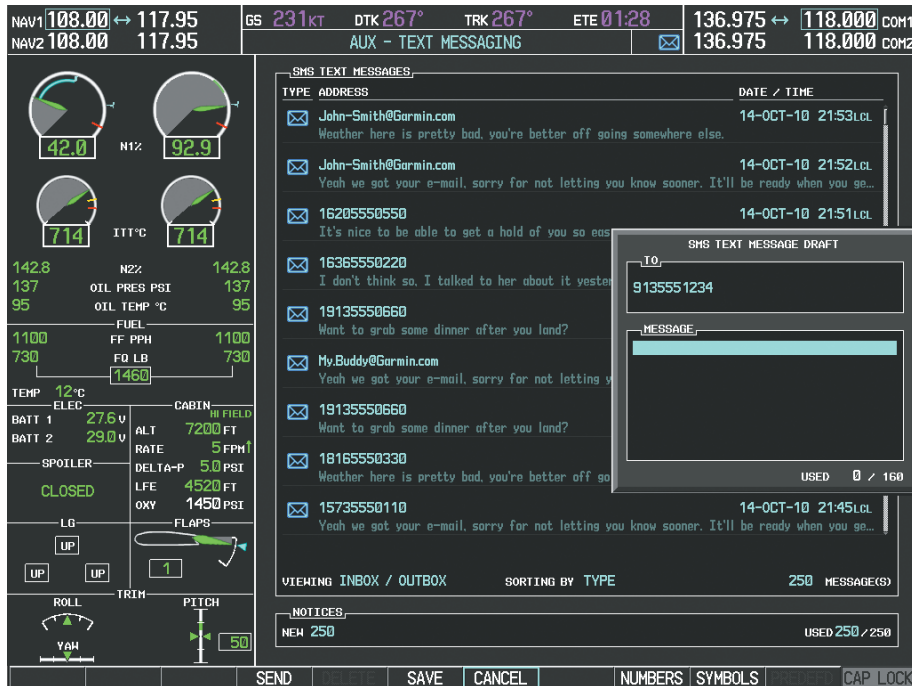

Figure 8-99 Composing a New Text Message
- 2) The TEXT MESSAGE DRAFT Window is now displayed with the cursor in the 'TO' field. Enter the desired telephone number or email address. Entry can be accomplished through the alphanumeric keys on the MFD Controller, or combination of the **FMS** Knob on the controller and softkeys on the MFD. The **FMS** Knob is used to enter letters and numbers, or numbers can be entered from the MFD by selecting the **NUMBERS** Softkey. Select the **CAP LOCK** Softkey to create upper and lower case alpha characters. Special characters can be accessed by selecting the **SYMBOLS** Softkey. See Figure 8-99.